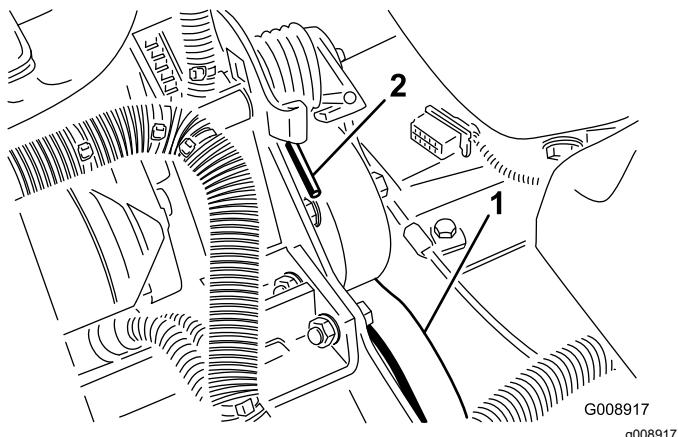

Figure 77
- Push down and forward on the spring end (Figure 77) to unhook it from the bracket and release tension on the spring.